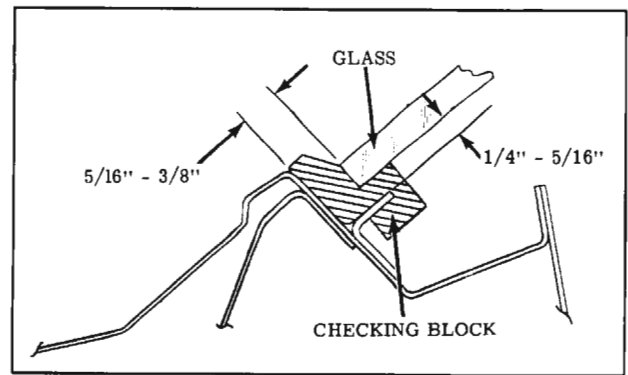

Fig. 16-210 Windshield Opening Check
- With windshield glass supported and centered in the body opening by checking blocks, check relationship of glass to body opening around entire perimeter of glass. Check glass to body relationship as follows: (Fig. 16-210)